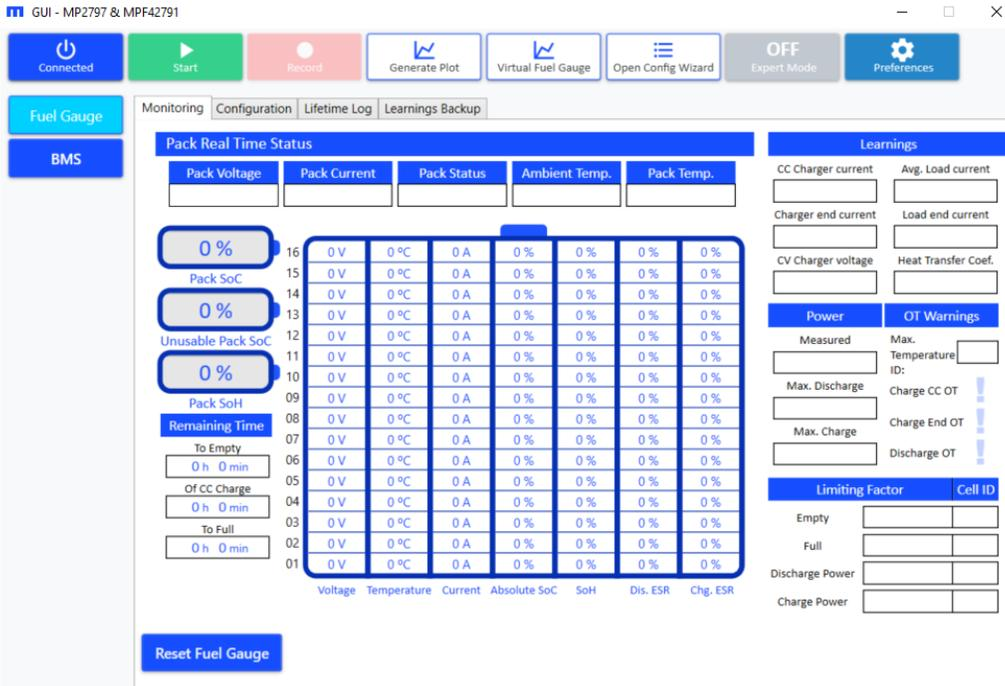

Figure 31: Completed Connection to the EVB
- Once the connection is complete, the button should show up as “Connected” (see Figure 31 on page 26). Once the mouse cursor moves over this button, it shows as “Disconnect”.